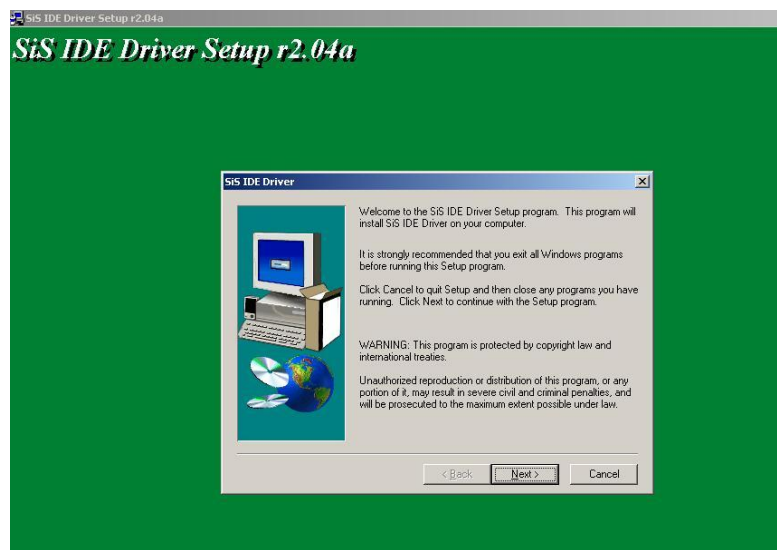

Figure 6-18: Welcome Screen
Step 3: The driver **Welcome** screen appears (**Figure 6-18**). Click **NEXT** to continue the installation.